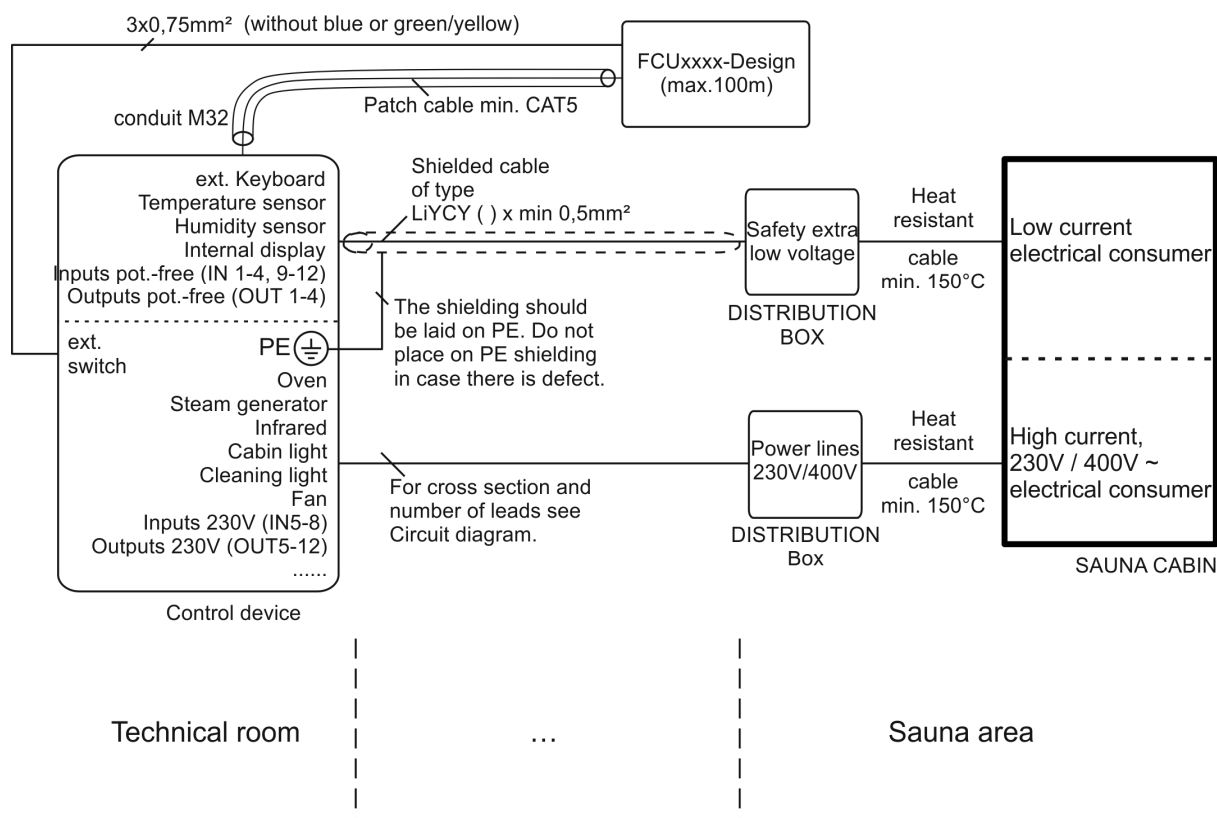

Figure 1: Cabling while installing the sauna control device not directly on the outer wall of the cabin
- Install a distribution box for the signal lines and another one for the power lines as per Figure 1